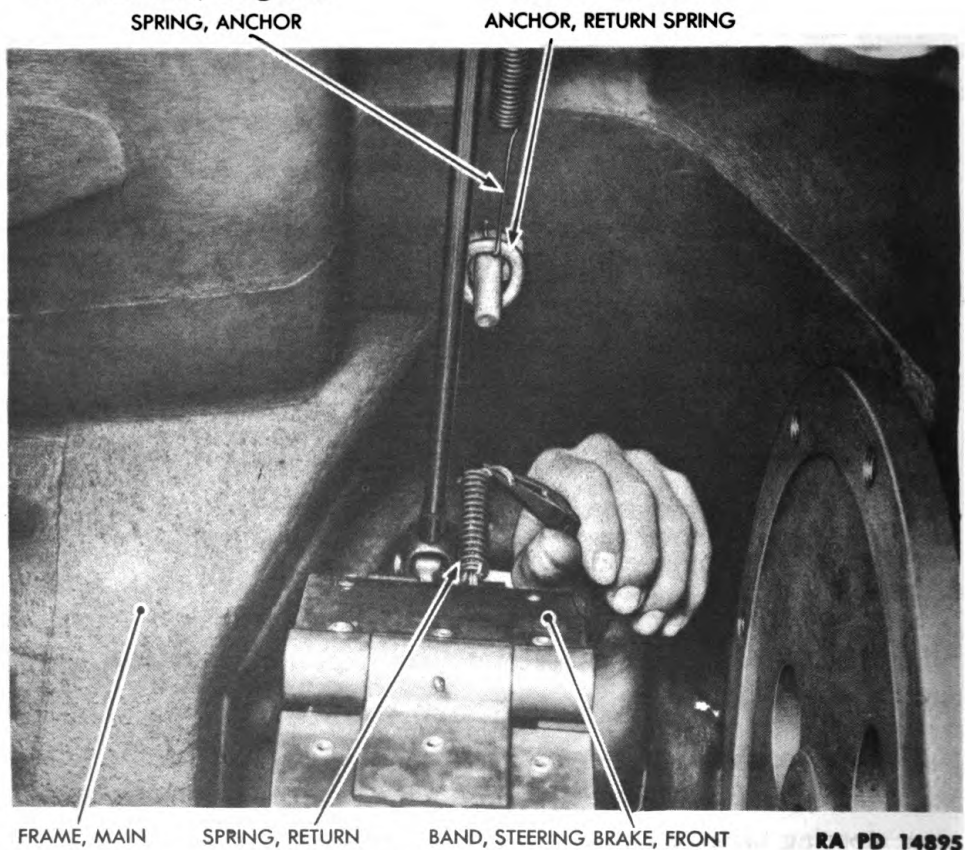

Figure 78 — Anchor Spring Installation
(3) **INSTALL RETURN SPRING** (fig. 78).